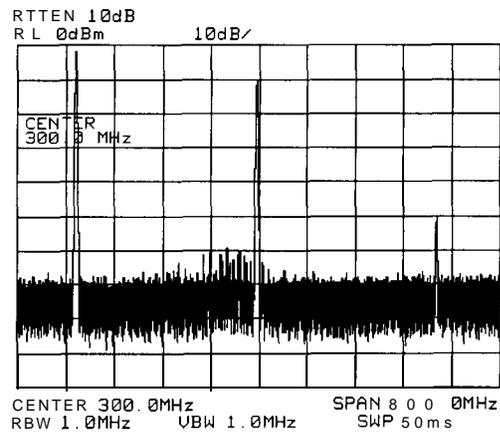

Figure 1-5. 300 MHz Center Frequency
- a. Press **FREQUENCY**. This activates the center frequency function, indicated by CENTER appearing in the active function block on the left side of the display (see Figure 1-5). It also brings up a menu of other frequency functions. See Figure 1-4.